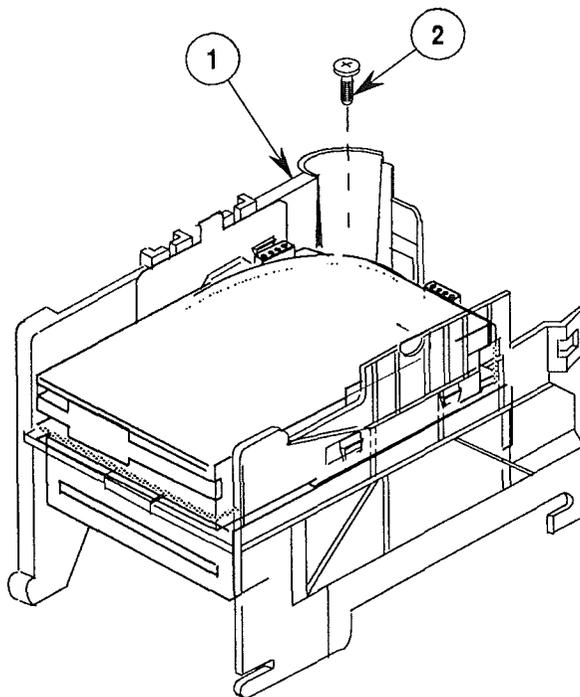

FIGURE 12
To remove the floppy disk drive, it is necessary to remove the whole plastic disk drive carrier unit (Figure 12, #1) that holds both the hard disk drive and the floppy disk drive.
3. Remove the Phillips screw (Figure 12, #2) from the disk carrier.